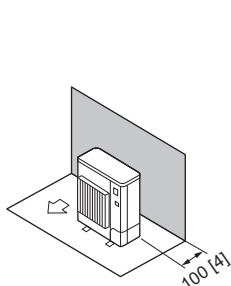

Fig. 2-6
- Obstacles at rear only (Fig. 2-6)